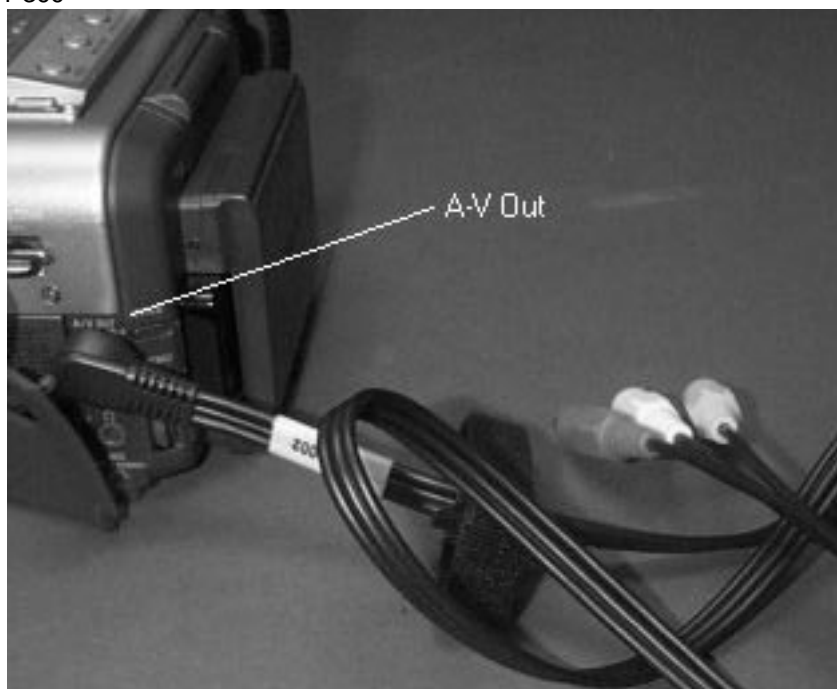

Figure 30 Attaching the A-V Out Cable
- Double-click on the **Imaging** folder on the **Desktop** to open a folder similar to that shown in Figure 30.